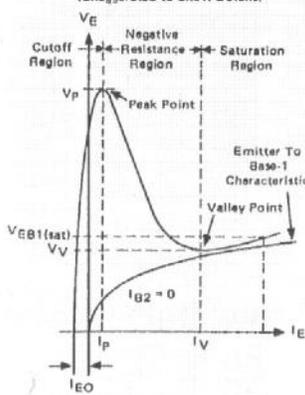

FIGURE 3 -- V_{OB1} TEST CIRCUIT (Typical Relaxation Oscillator)
3. Base-One Peak Pulse Voltage is measured in circuit of Figure 3. This specification is used to ensure minimum pulse amplitude for applications in SCR firing circuits and other types of pulse circuits.